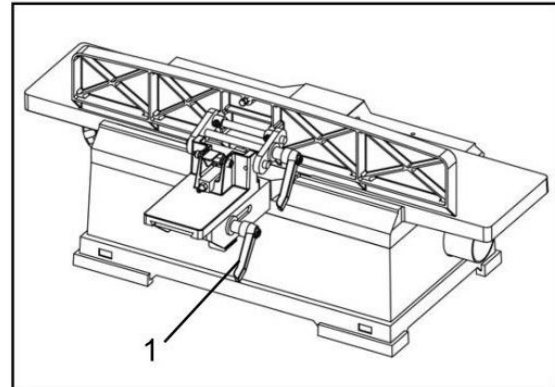

Figure 10-2
2. Loosen the fence sliding handle (#1, Figure 10-2).
3. Manually tilt the fence to desired angle inward or outward. If you have set up the machine as described in *sect. 8.0*, the fence will hit the stops inward or outward at 45° and measurement should not be necessary (Figure 10-2). However, it is advisable to confirm the settings with a machinist square, or similar angle gauge before commencing